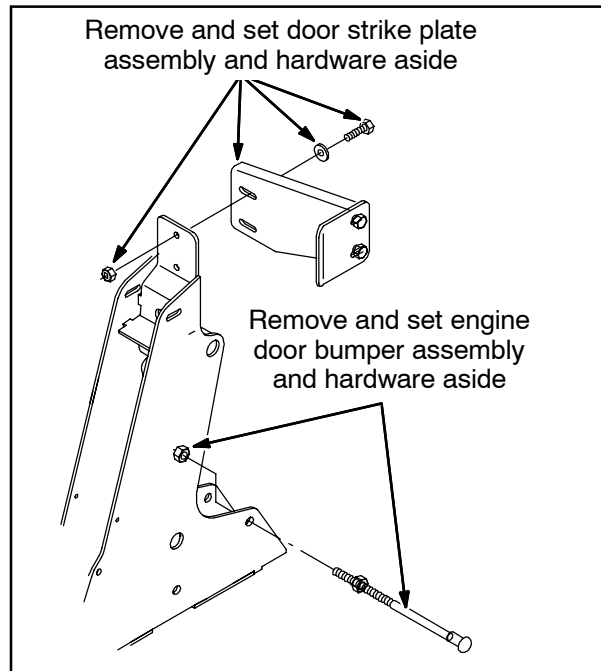

FIG. 5
3. Remove the door stop bracket and engine door bumper from the conveyor lift assembly. Set the bracket, bumper, and all hardware aside. Refer to Fig. 5.
18. Install the door stop bracket and engine door bumper from the old conveyor lift assembly onto the new conveyor lift assembly. Refer to Fig. 5.